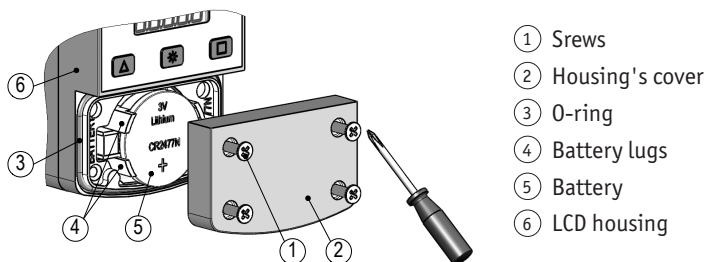

Fig. 11: Battery change
- ▶ Evenly tighten the screws ① until the housing's cover ② is completely aligned with the LCD housing ⑥ (see Fig. 11).
Dismounting (see Fig. 11):
Mounting (see Fig. 11):